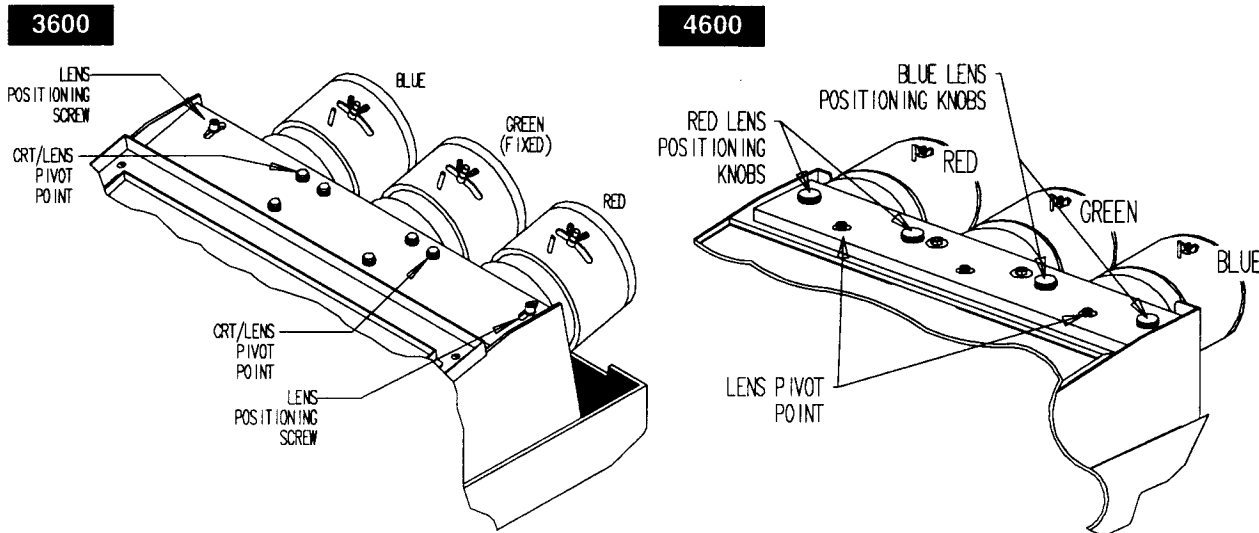

FIGURE 5-3. POSITIONING THE LENSES.
- STEP 6. RED to GREEN lens positioning. **3600**: Loosen the 3/16 lens positioning hex head screw **4600**: loosen the two lens positioning knobs, located directly behind the RED LENS/CRT assembly. Figure 5-3.